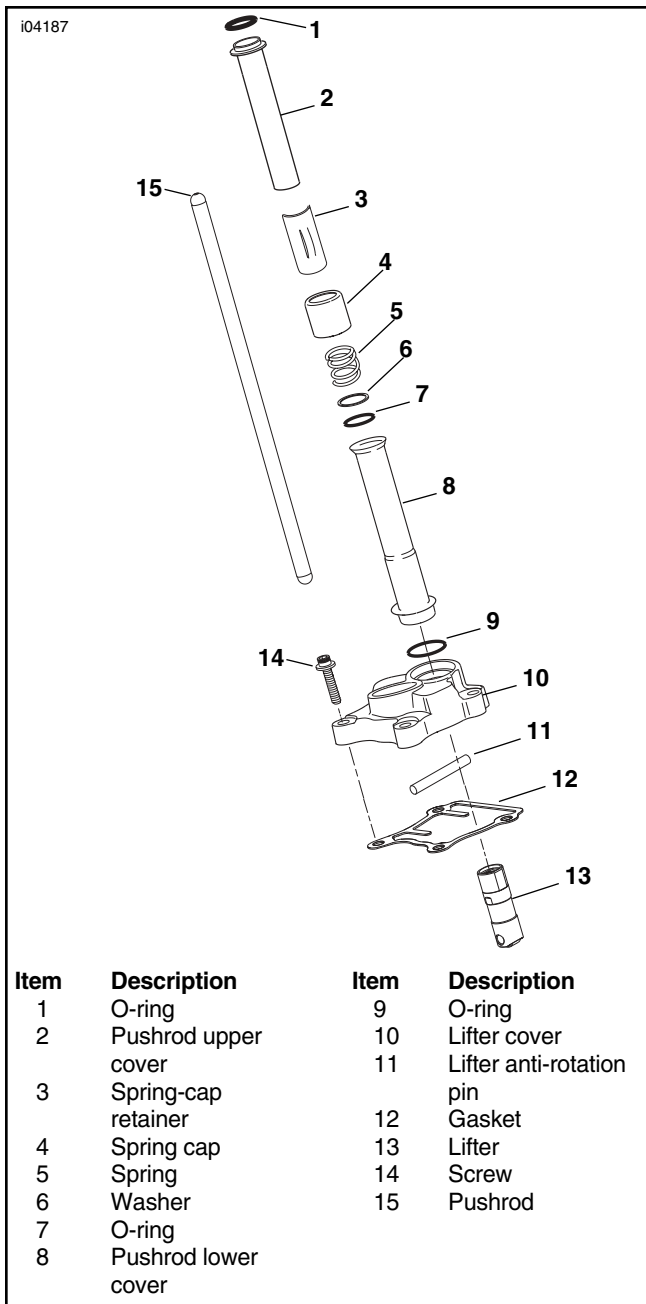

Figure 2. Pushrod, Pushrod Cover, and Lifter Cover
4. See Figure 2. Lift the lower pushrod cover to reveal the lower third of the pushrod.